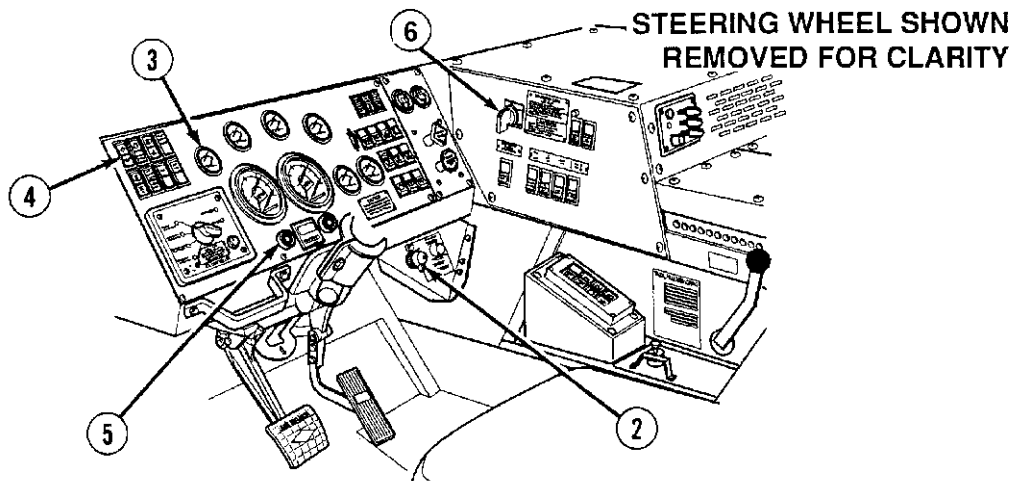

Figure 12. 12 Engine start controls
- 12.5.1.3 Turn the engine ON/OFF/START switch (Figure 12. 12. (2)) to START for no more than 15 seconds. Release the engine ON/OFF/START switch (Figure 12. 12. (2)). The engine ON/OFF/START switch will spring back to the ON position. The oil pressure indicator (Figure 12. 12. (3)) and oil pressure lamp (Figure 12. 12. (4)) may light and the buzzer (Figure 12. 12. (5)) may sound briefly.